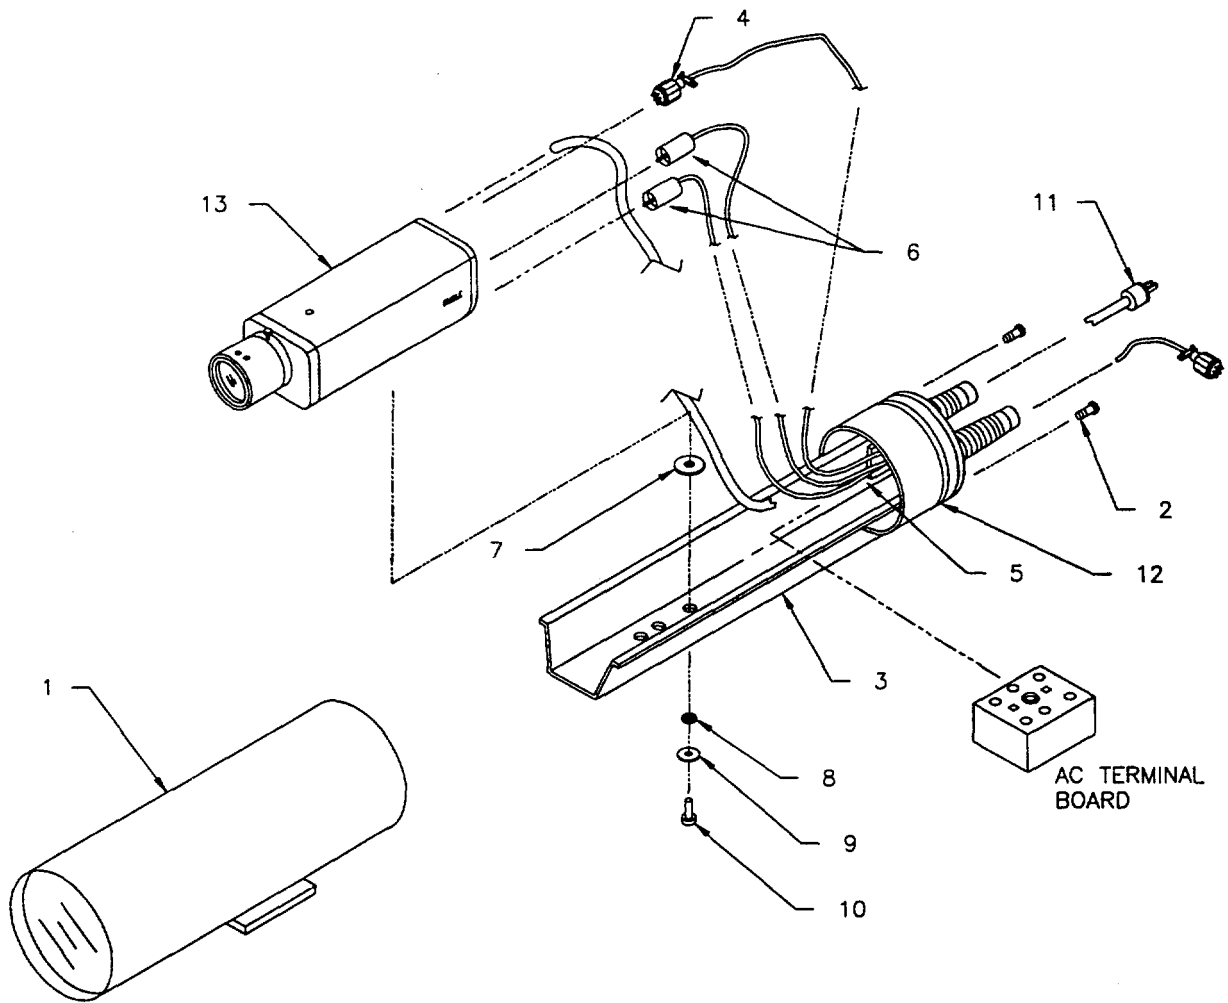

Figure 3-51. Removal and Replacement of CCTV Camera and Indoor Housing Assembly (TC9353)
**3-99. REPLACE CCTV CAMERA AND ENCLOSURE ASSEMBLY TC9353. (Figure 3-51)**